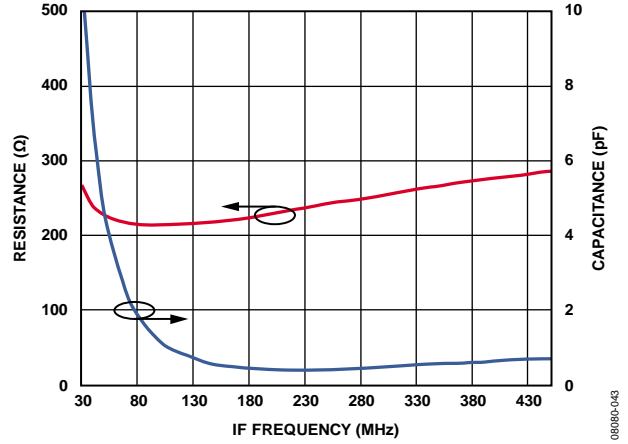
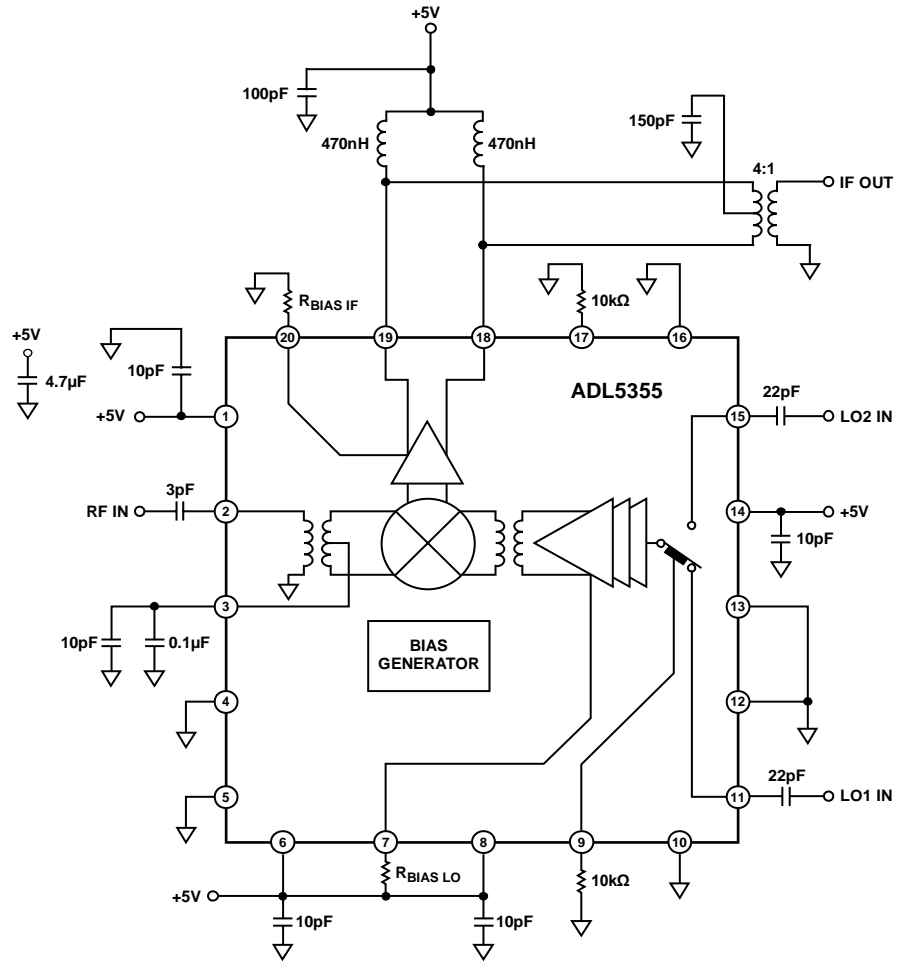

Figure 30. IF Port Return Loss
Figure 51. Typical Application Circuit
The ADL5355 mixer is designed to downconvert radio frequencies (RF) primarily between 1200 MHz and 2500 MHz to lower intermediate frequencies (IF) between 30 MHz and 450 MHz. Figure 51 depicts the basic connections of the mixer. It is recommended to ac-couple RF and LO input ports to prevent non-zero dc voltages from damaging the RF balun or LO input circuit. The RFIN capacitor value of 3 pF is recommended to provide the optimized RF input return loss for the desired frequency band.
The real part of the output impedance is approximately 200  $\Omega$ , as seen in Figure 30, which matches many commonly used SAW filters without the need for a transformer. This results in a voltage conversion gain that is approximately 6 dB higher than the power conversion gain, as shown in Table 3. When a 50  $\Omega$  output impedance is needed, use a 4:1 impedance transformer, as shown in Figure 51.